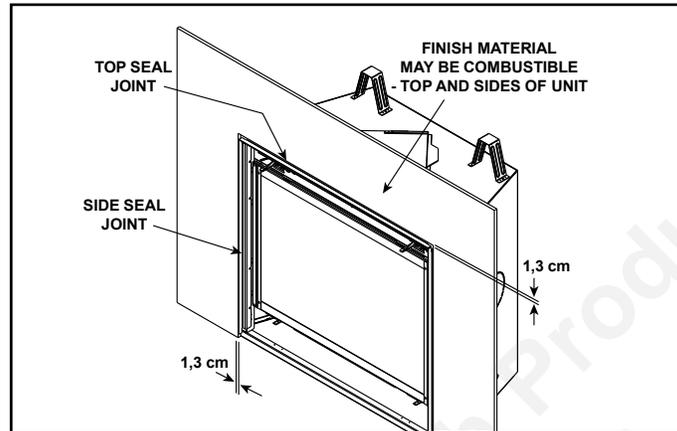

Figure 31. Sealant Material
**IF JOINTS BETWEEN THE FINISHED WALLS AND THE FIREPLACE SURROUND (TOP AND SIDES) ARE SEALED, A 150° C. MINIMUM SEALANT MATERIAL MUST BE USED. THESE JOINTS ARE NOT REQUIRED TO BE SEALED. ONLY NONCOMBUSTIBLE MATERIAL (USING 150° C. MINIMUM ADHESIVE, IF NEEDED) CAN BE APPLIED AS FACING TO THE FIREPLACE SURROUND. SEE FIGURE 31.**